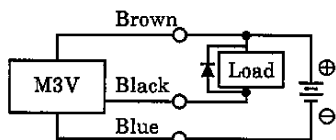

Fig. 3 An example of using an inductive load together with a surge absorbing element (diode). (Use Hitachi Ltd. made diode, V06C or the equivalent.)
- With an inductive load (relay, solenoid valve), surge voltage occurs when the switch is turned off. To protect the circuit, be sure to install a protect circuit shown in Fig. 3.